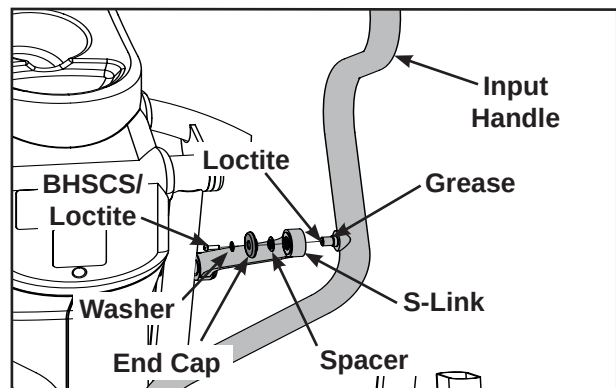

Figure 2
A. Using a 5/32" Allen wrench, remove the Button Head Socket Cap Screw (BHSCS), washer, end cap and spacer securing the S-link to the input handles. See Figure 2.